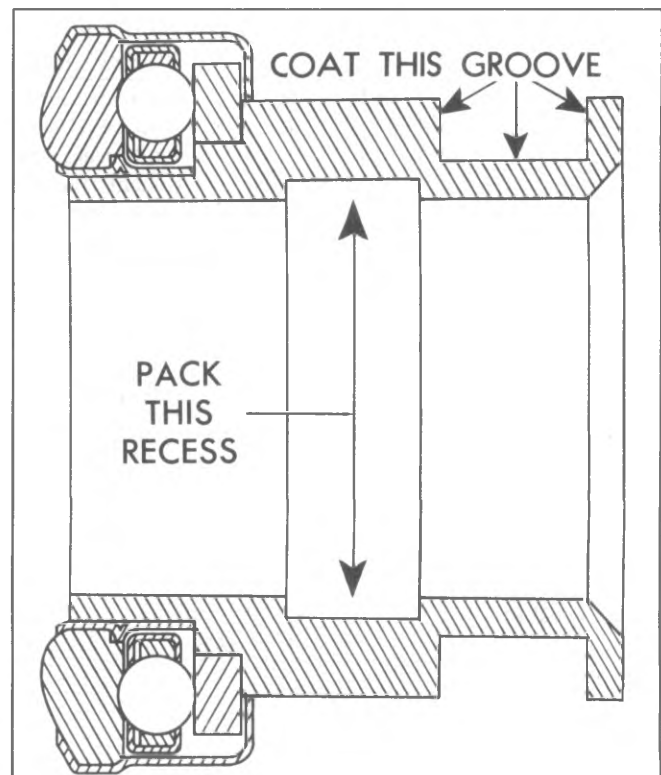

Fig. 7C-13--Lubrication Points on Clutch Release Bearing
10. Pack lubricant in the recess on the inside of the release bearing collar and coat the clutch fork groove with a small amount of graphite grease, as shown in Figure 7C-13.